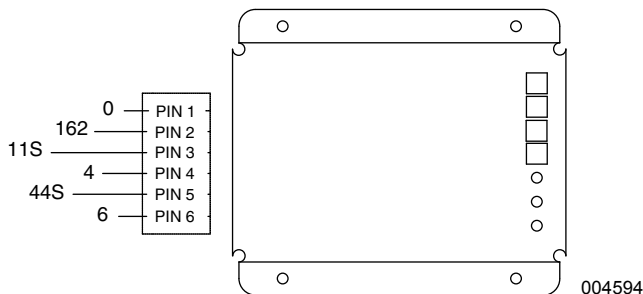
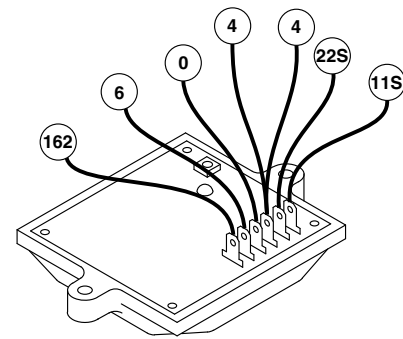

Figure 4-6. Old Style Voltage Regulator Wire Number Locations
Figure 4-7. New Style Voltage Regulator Wire Number Locations
7. See **Figure 4-6** or **Figure 4-7**. Disconnect wire 2 from the excitation circuit breaker and connect one meter test lead to it.
14. See Figure 4-6 or Figure 4-7. Connect one meter test lead to wire 11S.